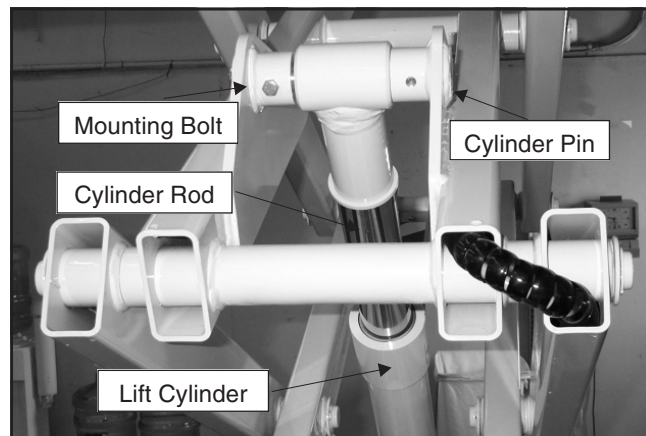

Figure 7.20—Lift Cylinder
3. At the upper end, remove the mounting bolt (figure 7.20) and use a hammer and punch to knock out the pin attaching the cylinder to the scissor assembly (figure 7.20).